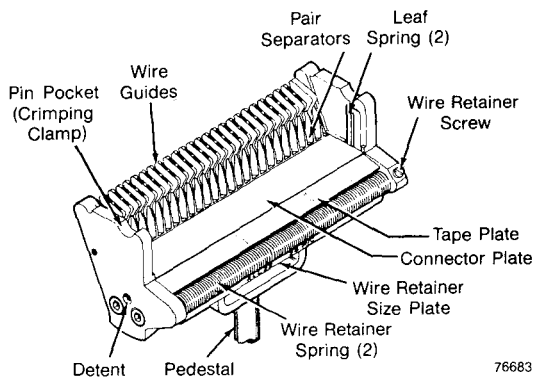

Fig. 4—4041 Splicing Head.
- 3.01 Conductors are joined in the modules by using a module terminator splice head. The splice head is used to support the connector components and aid in wire handling during the splicing operation. See Figure 4.